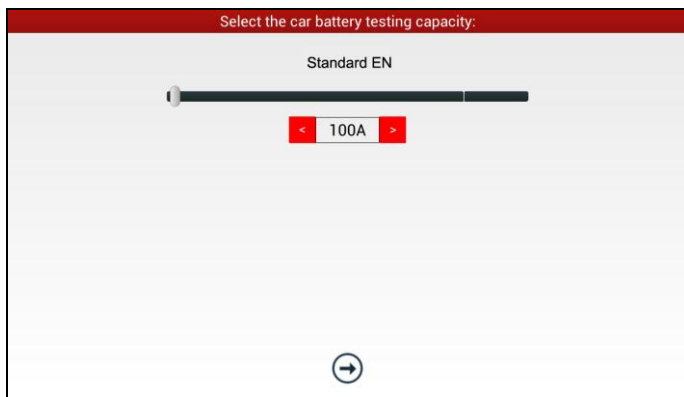

Fig. 11-6
- Select a testing standard except for JIS and tap ➡, a screen similar to Fig. 11-6 will appear. Users can adjust capacity size by tapping on < or > or by dragging the slider on the bar.